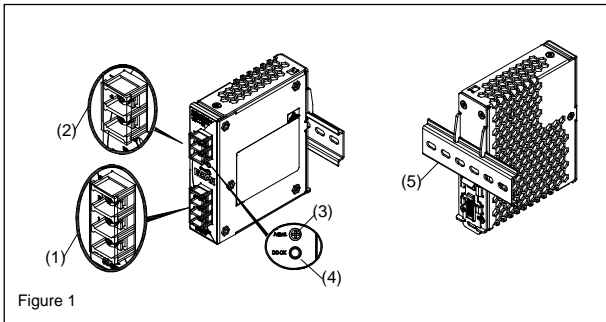

Figure 1
2. Device description (Fig. 1)
5.1. Input connection (Fig. 1, Fig. 5)
Use L, N and PE connections of input terminal connector (see Fig. 1 (1)) to establish the 100-240 VAC connection.
5.2. Output connection (Fig. 1 (2))
Use the "+" and "-" screw connections to establish the 12 VDC connection. The output provides 12 VDC. The output voltage can be adjusted from 11 to 14 VDC on the potentiometer. The green LED DC OK displays correct function of the output (Fig. 1 (4)). The device has a short circuit and overload protection and an overvoltage protection limited to 17.6 VDC.